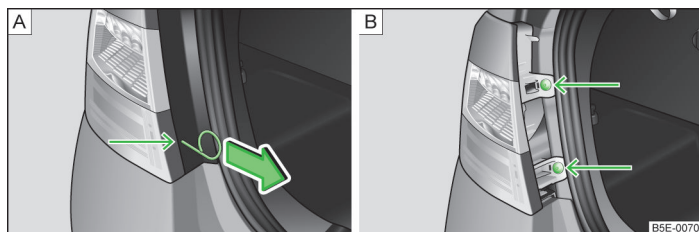

Fig. 229 Remove cover / light
- Insert the clamp for removing the wheel trims » page 236, *Vehicle tool kit* into the hole at the position indicated by the arrow » Fig. 229 - [A].
- Remove the cover in the direction of the arrow » Fig. 229 - [A].
- Use the screwdriver from the tool kit to unscrew the lamp » Fig. 229 - [B].